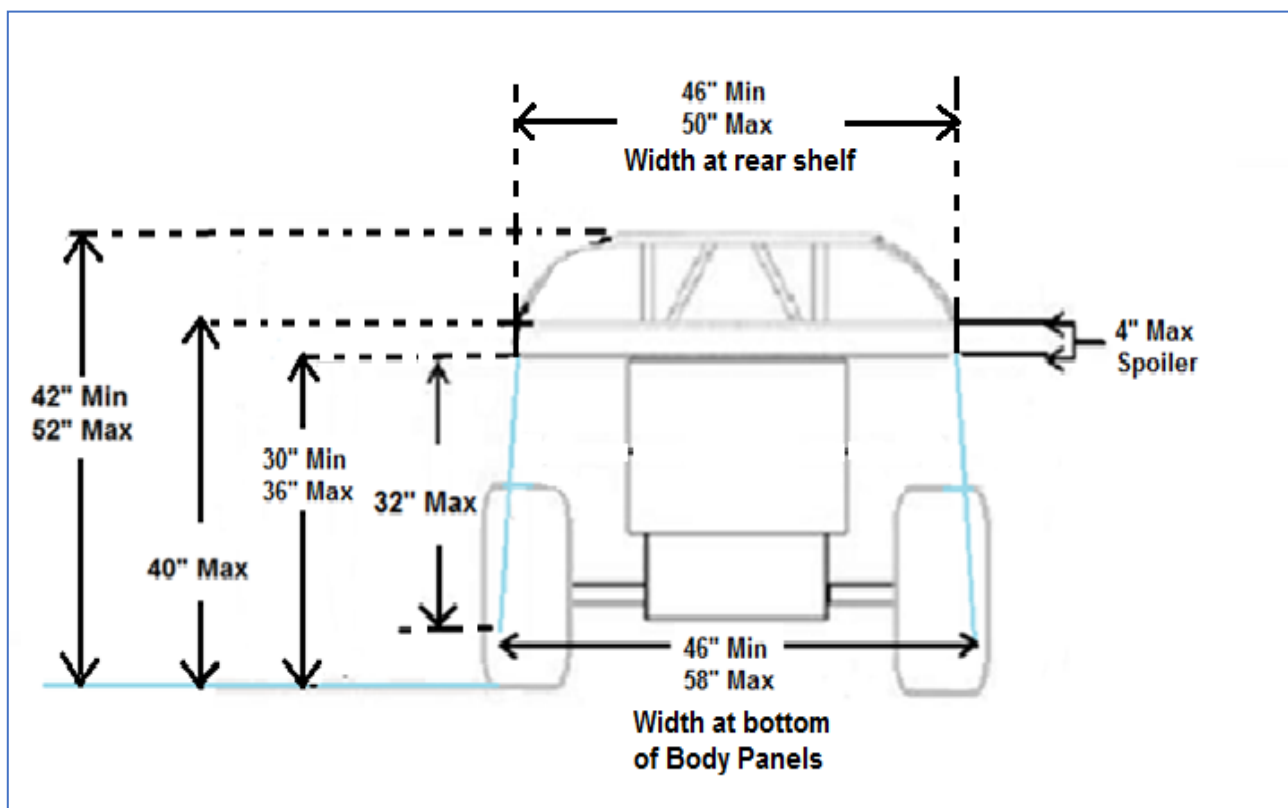

Figure 2
**7.2** Width at rear shelf of body panels 46 inches min 50 inches max (*Figure 2*).
7.3 Width of body panels at lowest point: min 46 inches, max 58 inches (*Figure 2*).
7.13 Body height measured from the ground to the top of the highest panel can be a minimum of 42 inches to a maximum of 52 inches (*Figure 2*).